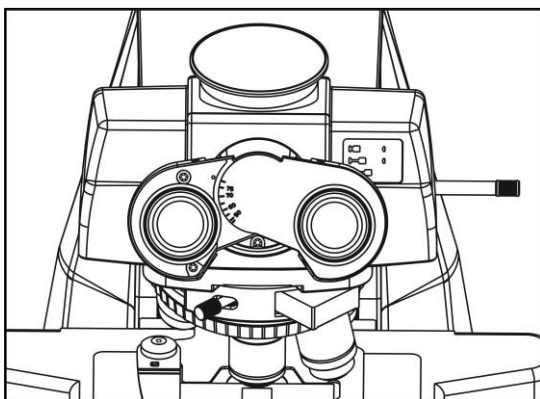

Fig 6
3.5 Adjust Interpupillary Distance(fig 6)